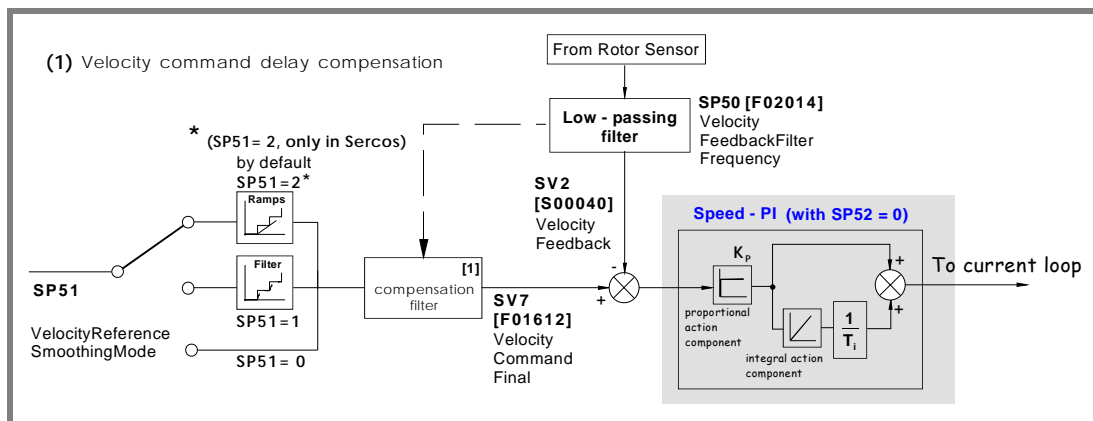

FIGURE S4-13
The velocity loop basically consists of a proportional-integral (PI) controller shown in the FIGURE S4-13. Its operation is determined by means of the constants K_p and T_i associated with parameters SP1 and SP2 respectively.